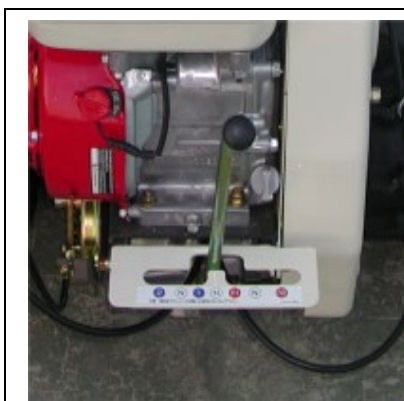

Figure 6
- Check the Speed change lever in neutral position. (Figure 6)